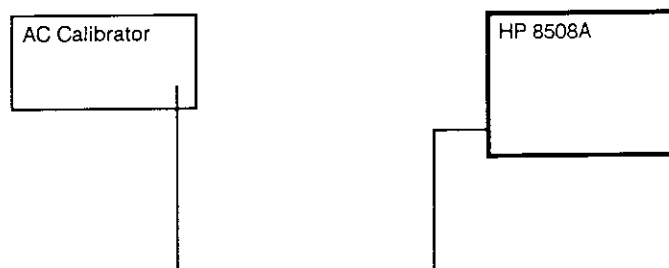

Figure 5-2. Reference Level Adjustment Equipment Setup
1. Configure the equipment as shown in the Figure 5-2.